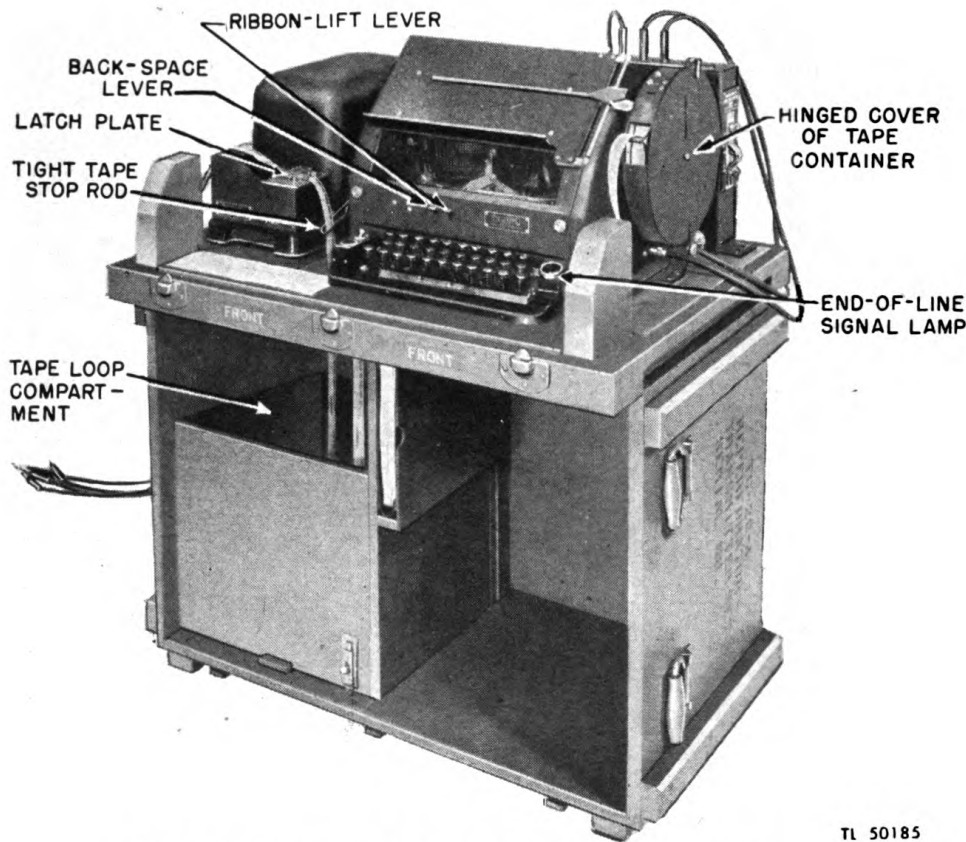

Figure 8. Reperforator Transmitter TG-26-A, over-all view.
(6) *End-of-line indicator.* The reperforator end-of-line indicator signal lamp (fig. 8) is adjusted to operate when approximately 65 characters have been perforated, indicating that associated page teletypewriters are nearing the end of a line of type.
(11) *Ribbon-lift lever.* Operation of the ribbon-lift lever on the reperforator (fig. 8) lifts the inking ribbon away from the tape to permit viewing the last character printed without using the tape feed-out or space functions of the machine.
(12) *Back-space lever.* Operation of the back-space lever (fig. 8) feeds the tape back through the punching mechanism and tape guides. The tape is moved back one space for each operation of the lever.
(14) *Tight tape stop rod.* The tight tape stop rod located to the right of transmitter-distributor (fig. 8) serves to stop the tape-feed and transmitting mechanism of the transmitter-distributor in case there is too little slack tape between the reperforator and the transmitter-distributor. The tight tape stop rod will also stop the tape-feeding mechanism if the tape feeding into the transmitter becomes tangled, thus preventing mutilation of the tape-feed wheel perforations.
(2) *End-of-line indicator.* The reperforator end-of-line signal lamp (fig. 8) is adjusted to operate when approximately 69 characters have been perforated, indicating that associated page teletypewriters are nearing the end of a line of type.
d. Reperforator keyboard. Strike the keys (fig. 4) with firm, evenly spaced strokes. When the end-of-line signal lamp (fig. 8) lights, or when desiring to start a new line on an associated page teletypewriter, depress the LTRS, CAR RET, and LINE-FEED keys in succession. To send single space, as between words, depress the space bar completely and release it immediately. Spaces will be sent as long as the space bar is depressed. To send letters (lower case), depress the LTRS key and then strike the keys for the desired letters. To send figures, punctuation marks, and other characters, symbols or functions marked on the key tops above the letters, depress the FIGS key and then the keys for the desired figures of characters. Remember that the reperforator shifts back to print letters after operation of the space bar, as well as after operation of the LTRS key. Use the BELL key to signal or attract the attention of the distant station operator.
e. Possible operating combinations for Reperforator Teletypewriter TG-26-A and TG-27-A. (1) To send from keyboard to line and to receive from line (marking page copy on either operation); to simultaneously prepare a perforated and printed tape locally; and to transmit simultaneously to another line from tape; use the following jack box connections: